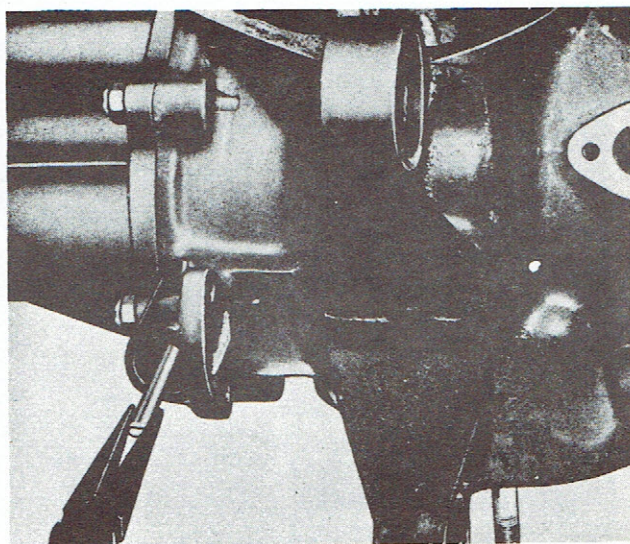

Figure 4-7. Fuel Pump Lower Plunger Removal
- a. Using a pair of long-nosed pliers, remove the fuel pump lower plunger through the round hole in the fuel pump mounting boss on the engine crankcase. (See figure 4-7.)